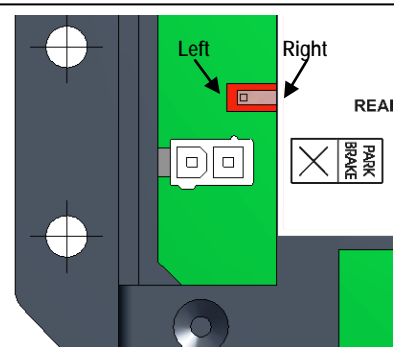

Figure 9A Park Brake Dip Switch on Control Box
3. Route and attach the harness to where the rocker switch will be mounted, and mount the rocker switch with two (2) screws.
5. Route the park brake input harness from the park brake signal source to the control box or to bypass the park brake input signal, move the dip switch at the park brake connector on the control box to the left (FIGURE 9A).